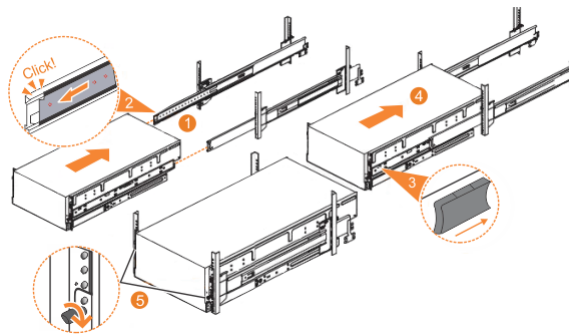

Figure 56. Replacing the 5U enclosure in the rack
1. Fully extend the left and right drawer sections from the rack to lock the rails in the extended position (1 in Figure 56 on page 87).
2. Ensure that the ball bearing retainer clicks into place inside the front of the left and right drawer sections (2 in Figure 56 on page 87).
6. Locate the left and right blue release tabs near the front of the enclosure. Press both release tabs forward to unlock the drawer mechanism (3 in Figure 56 on page 87).
7. Push the enclosure firmly into the rack (4 in Figure 56 on page 87).
8. Tighten the locking thumb screws (5 in Figure 56 on page 87) to secure the enclosure in the rack.